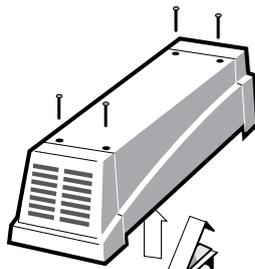

Figure 3-5
4. Remove the small plate that holds the lamp in place (Figure 3-5).